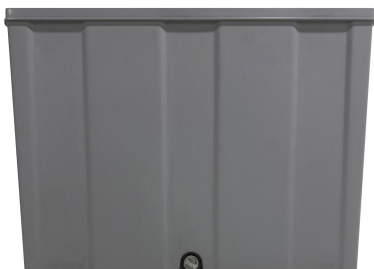

Figure3
- **The drain outlet is on the bottom, as shown in Figure 3.**